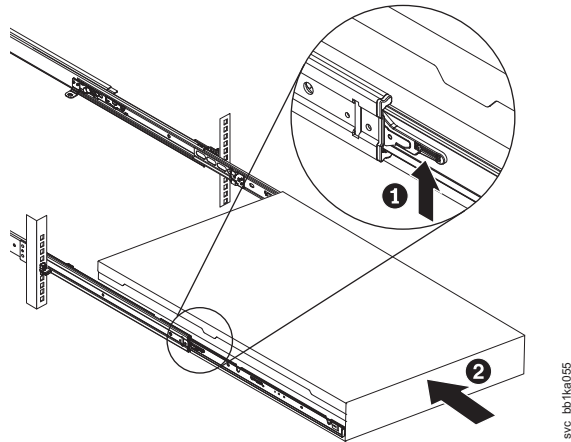

Figure 308. Raising the locking levers of the SAN Volume Controller 2145-DH8 slide rails of the rack
14. Lift the locking levers (**1** in Figure 308) on the slide rails and push the server **2** all the way into the rack until it clicks into place.